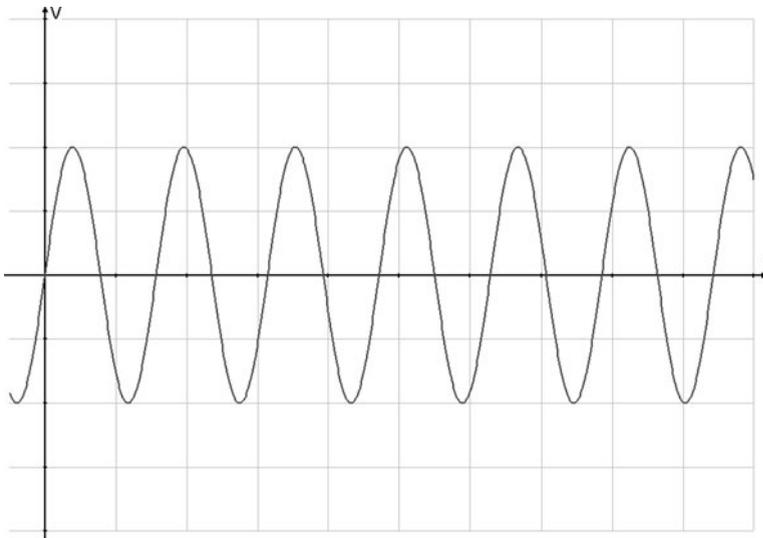

Fig. 14-18. Reciprocal motion.
**Try This:** The oscillator in Fig. 14-7 provides a smooth, reciprocal motion that looks something like Fig. 14-18.